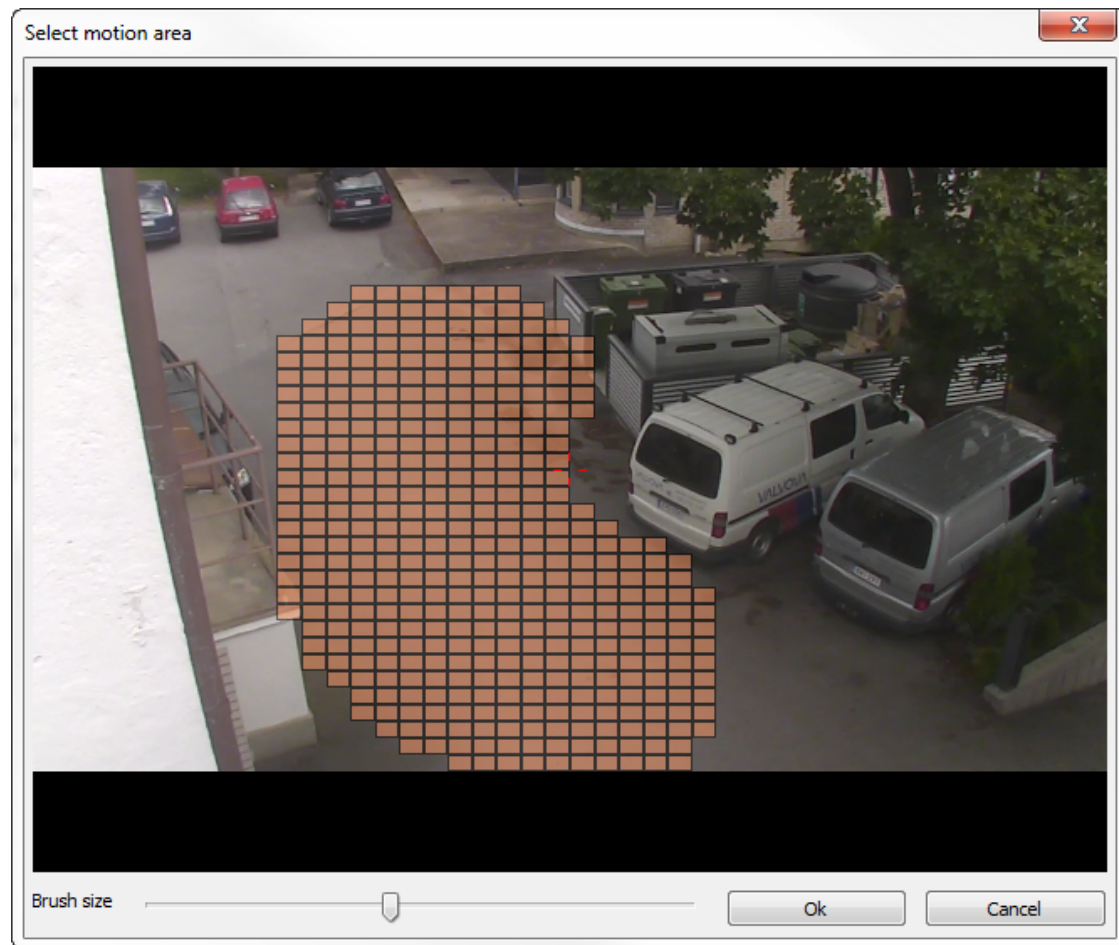

Figure 5.14: Adding the Area motion detection-condition.
- Click and hold left mouse button on the camera image and draw a mask for motion detection. The orange area drawn triggers the action, other parts will be ignored. (Figure 5.14). Click OK to accept.